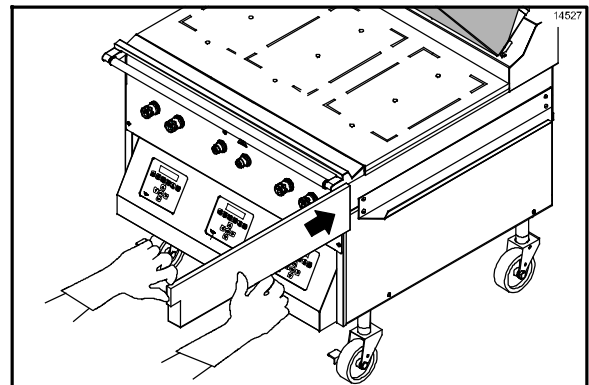

Figure 69
- 44. Re-install the grease pans. (See Figure 69.)